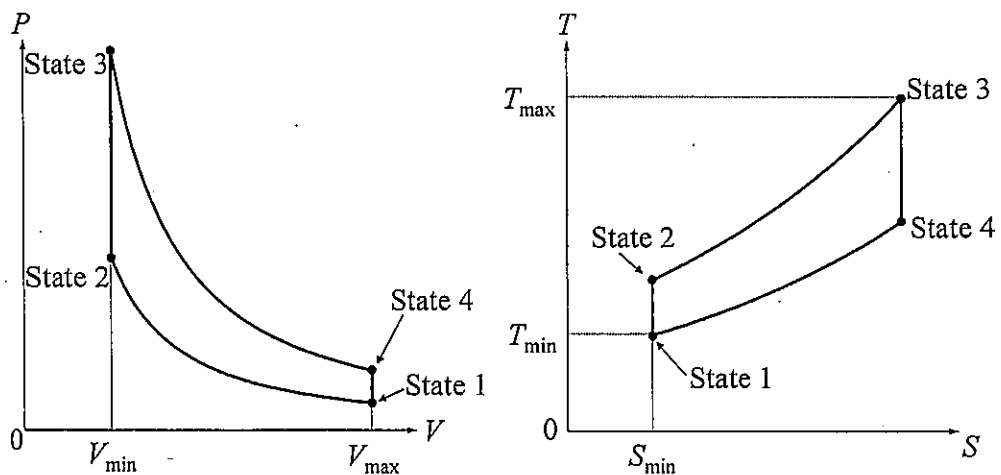

Figure 1-1
I. Consider an ideal Otto cycle, the P - V and T - S diagrams of which are shown in Figure 1-1. Here, V and S are the volume and entropy of the working gas in the cylinder. The working gas is an ideal gas and C_v is the molar specific heat at constant volume of the working gas. The change of C_v due to temperature change is negligible. R_0 is the universal gas constant. The amount of the working gas in the cylinder at State 1 is n [mol]. S_{\min} is the entropy at State 1, T_{\min} , V_{\max} and T_{\max} , V_{\min} are the temperatures and volumes at State 1 and State 3, respectively, ε is the compression ratio ($\varepsilon = V_{\max}/V_{\min}$), and P_0 is the atmospheric pressure. By using the variables and constants given in the problem statements, answer the following questions.
- (1) It is known that the relationship between temperature T and volume V , $TV^a = \text{constant}$, holds during the process between State 1 and State 2. Derive a from the first law of thermodynamics. Show the derivation process, too.
- (2) Obtain temperature T_2 at State 2.
- (3) Obtain the amount of heat, $Q_{2 \rightarrow 3}$, which the working gas receives during the process between State 2 and State 3.
- (4) Obtain the entropy of the working gas, S_3 , at State 3.
- (5) Obtain the thermal efficiency η of the Otto cycle shown in Figure 1-1. Show the derivation process, too.
- (6) Compare the following two cases: one where the working gas is helium and the other where the working gas is nitrogen. In which case is the thermal efficiency η larger? Describe the reason for it.